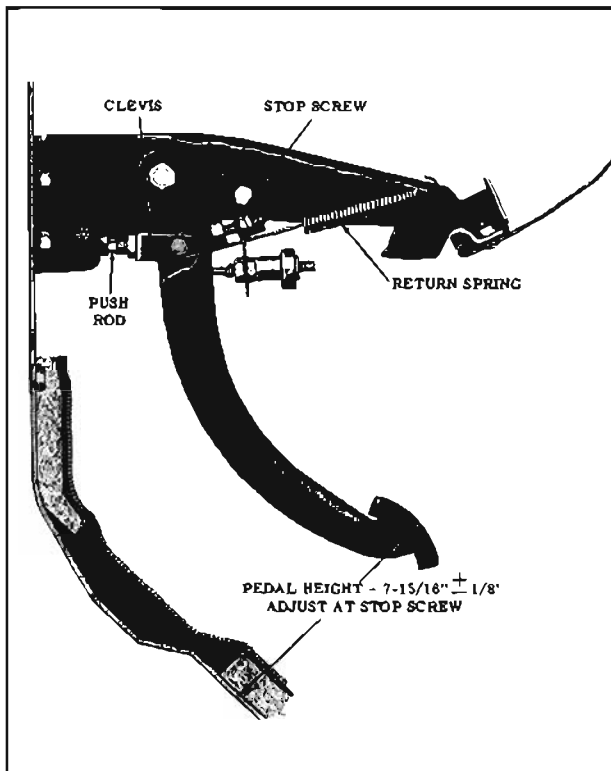

Fig. 11-6 Brake Pedal Adjustment
2. Turn back floor mat and check pedal height (from floor pan to top of pedal pad). If dimension is not $7-15/16$ " \pm $1/8$ ", loosen locknut and adjust stop screw. (Fig. 11-6) Tighten locknut and recheck adjustment.